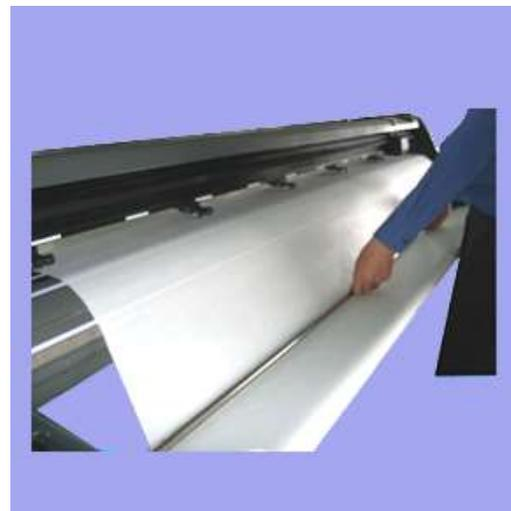

Figure 4-7
Step 7 Place the two dancer bars **(D)** into the dancer guiders **(G)** (Figure 4-7)